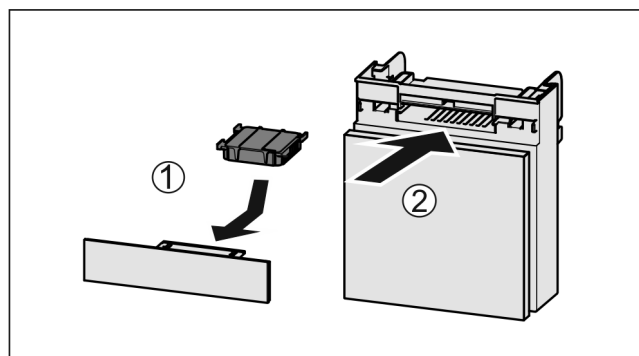

Fig. 119
- ▶ Insert the carbon filter as shown in the diagram Fig. 119 (1).
- ▶ Push the compartment in *Fig. 119 (2)*.